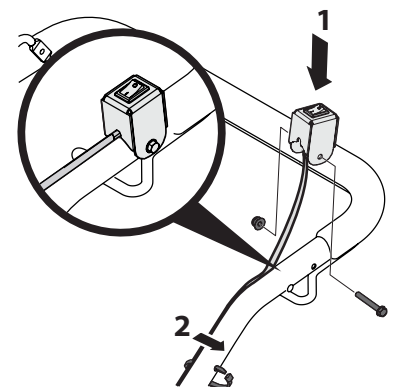

Figure 11
5. Mount the emergency stop control ON/OFF switch onto the left side of the handlebar with the #10-32 : 1.50 hex bolt and 10-32 flange lock nut. See 1 in Figure 11.
6. Secure the wire near the bottom of the handlebar with a cable tie looped through the hole beside the instruction label on the left handlebar. See 2 in Figure 11.